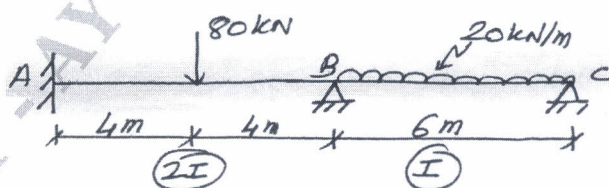

Fig.Q7
- Q.7 Analyze the beam completely by slope deflection method, when support B sinks by 1 mm and support C rises by 0.5 mm. Take $EI = 30000 \text{ kN.m}^2$. Refer Fig.Q7. Draw BMD, SFD and Elastic Curve. 20 L3 CO4